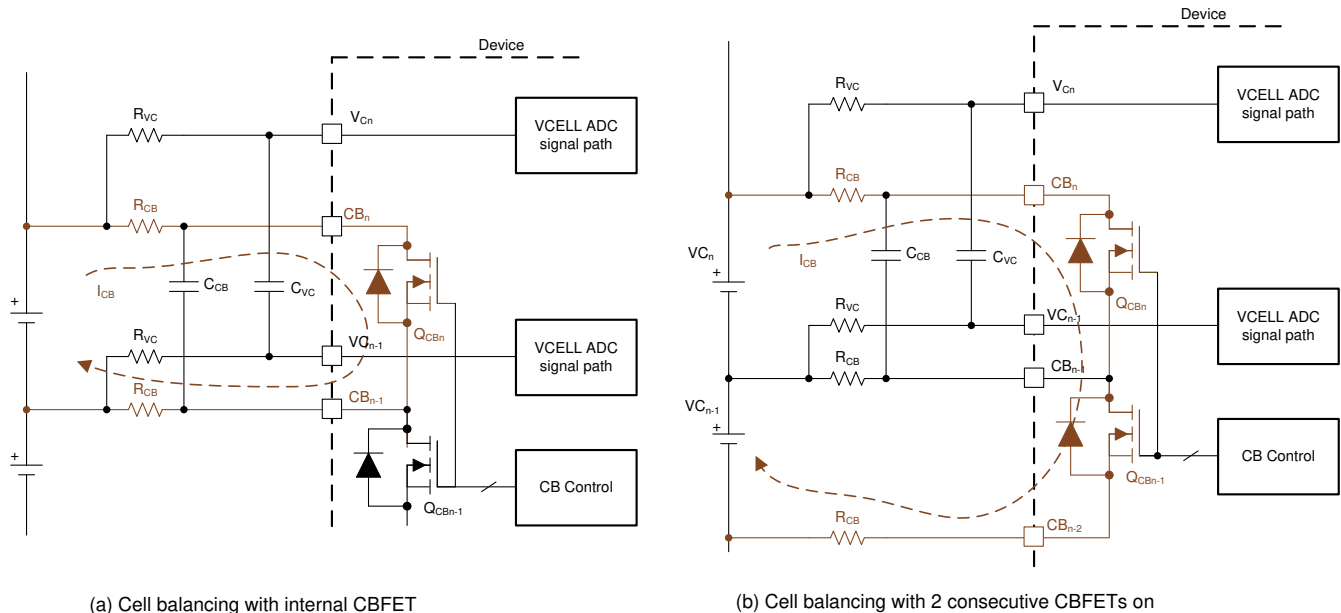

图 8-14. Internal Cell Balancing and the Flow of Balancing Current
- Balancing with no consecutive CBFET on (図 8-14 (a)): $I_{CB} = V_{Cell} / ((2 \times R_{CB}) + R_{dson_{QCB}})$
- Balancing with two consecutive CBFETs on (図 8-14 (b)): $I_{CB} = (\text{Sum of two } V_{CELL}) / ((2 \times R_{CB}) + R_{dson_{QCBn}} + R_{dson_{(QCBn-1)}})$